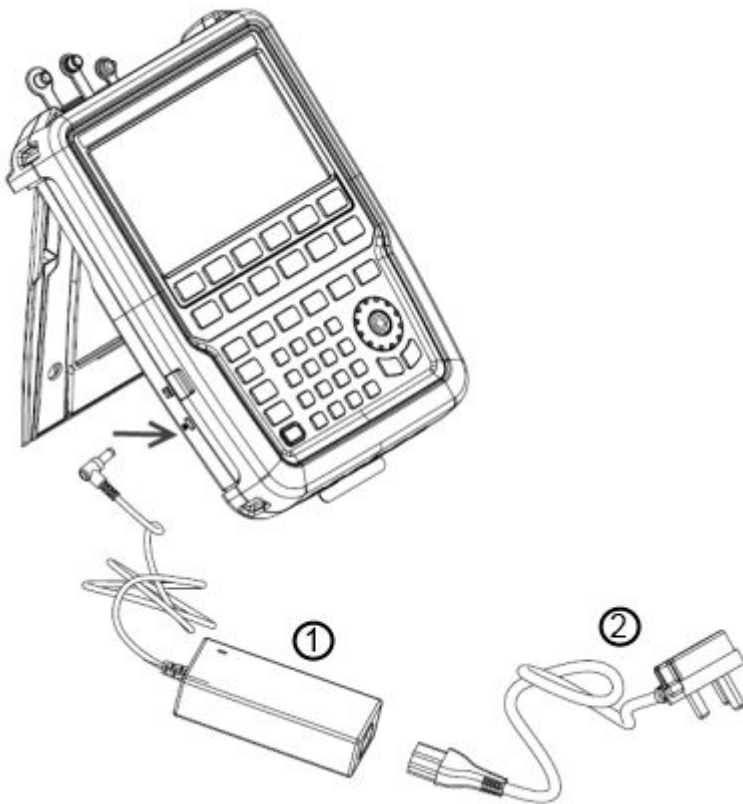

Figure 2-1: AC adapter
Connect the AC adapter (R&S HA-Z301, order number 1321.1386.00) to the DC port on the left side of the R&S Spectrum Rider (item 1 of Figure 2-1). Make sure to fully insert the plug into the port.
Depending on the system you need, firmly connect the appropriate power cable included in the delivery to the AC adapter (item 2 of Figure 2-1).